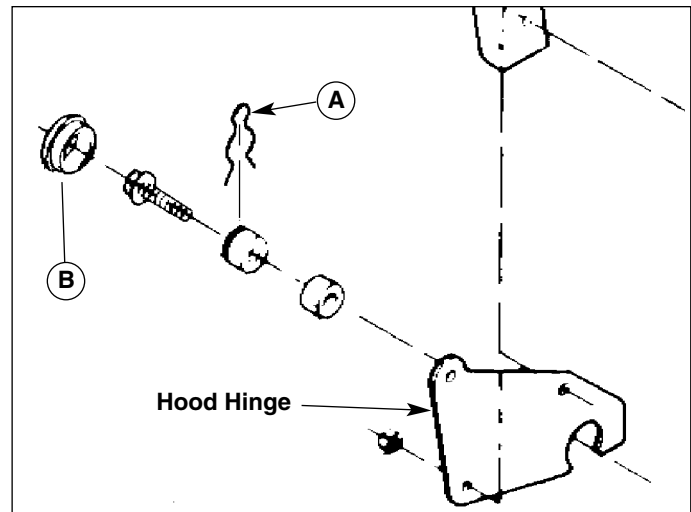

Figure D-4. Hood Hinge Assembly
3. Using needle-nose pliers, remove the clip (A, Figure D-4) on each of the hood pivot points.
4. Slide out and remove the hood pivot spacer (B) from each of the hood hinges.